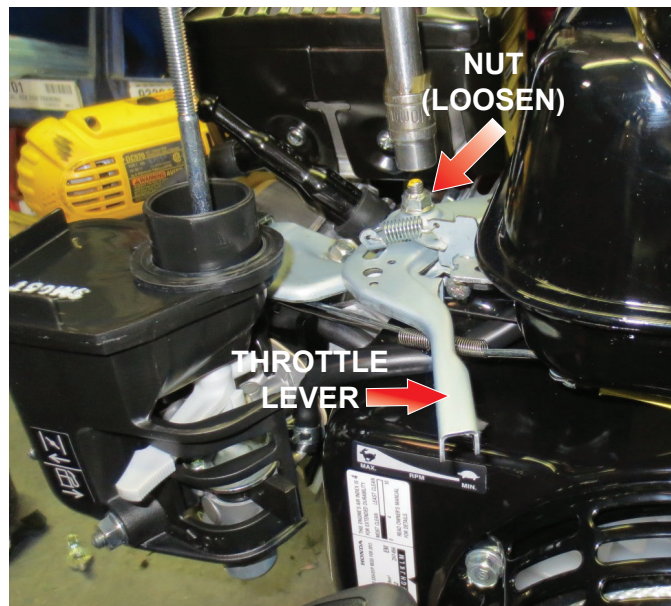

Figure 14. Loosen Throttle Lever Nut
4. **LOOSEN** the nut on the throttle lever (Figure 14) until the throttle lever moves freely. **DO NOT** remove the nut.